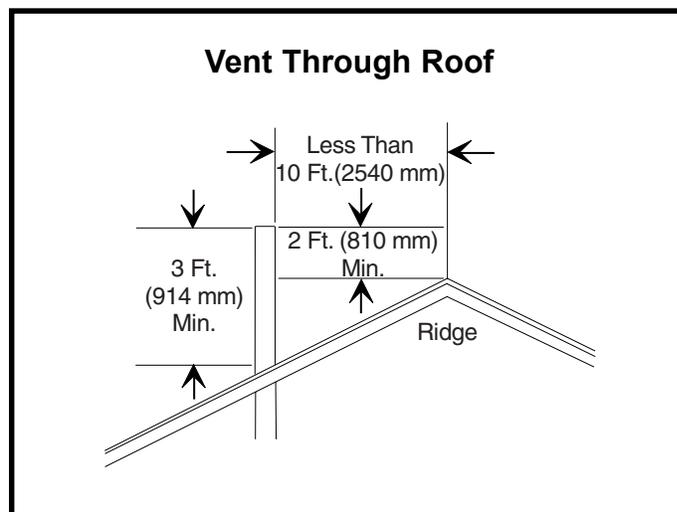

Figure 7
5. A factory-built chimney must extend 3' above the highest point where it passes through a roof of a building and at least 2' higher than any portion of a building within a horizontal distance of 10' (see Figure 7).